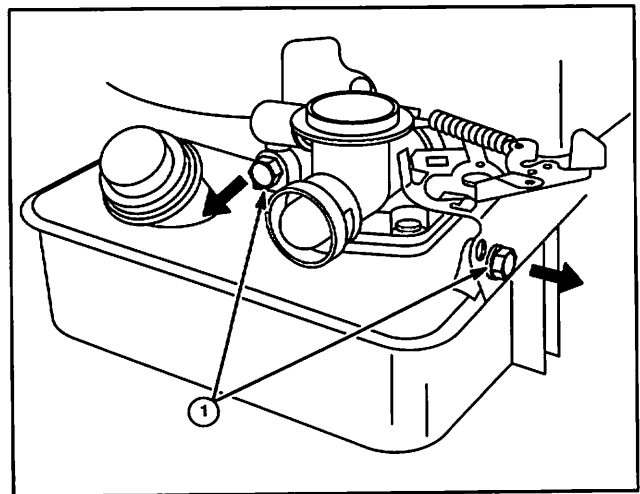

Fig. 1
Remove Carburetor and Tank Assembly (Figs. 1 & 2)
1. Remove fuel tank mounting bolts (1), Fig. 1.
2. Slip carburetor and fuel tank assembly off fuel intake tube (3).
3. Turn assembly to free throttle link from throttle lever (1).
4. Install and tighten mounting screws securely, Fig. 1.